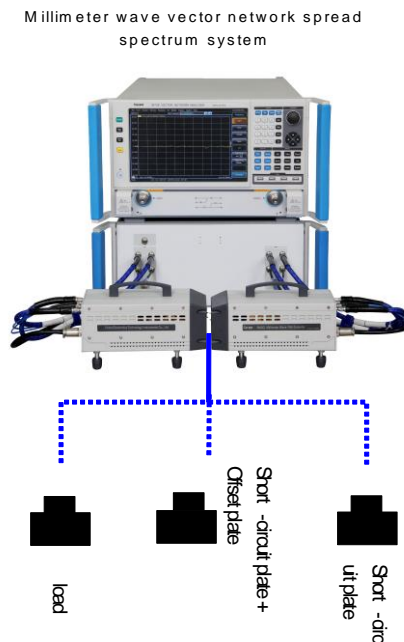

Figure 9-4. Single port calibration connection
- 2) According to the instrument prompt, as shown in Figure 9-4, complete port 1 single port calibration. The calibration sequence is “load→ offset plate + short circuit plate →short circuit plate”.